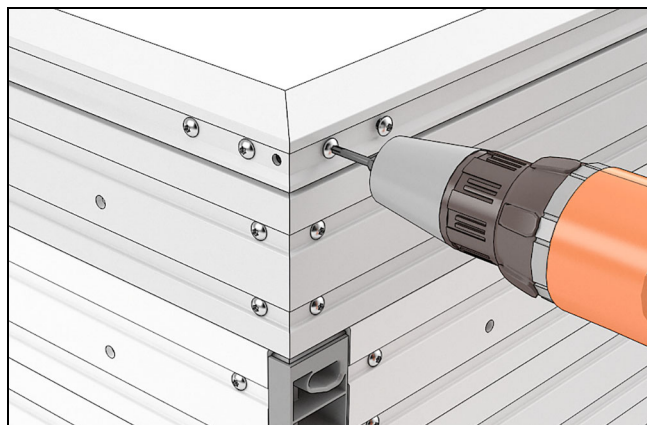

Figure 47
5. Tighten the jamb screws you loosened earlier. See Figure 47